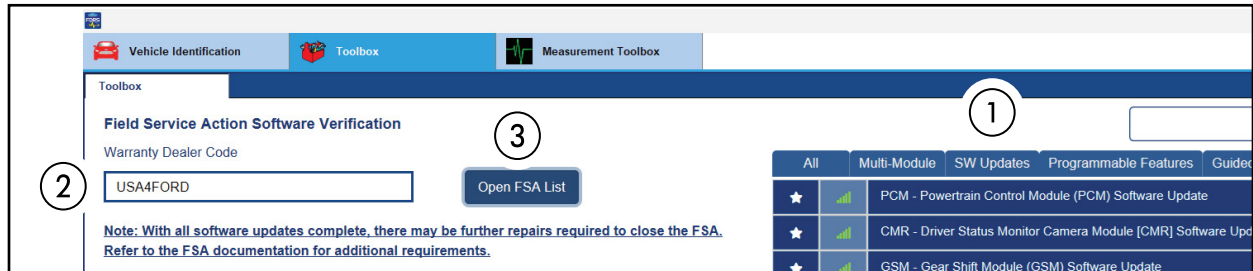

FIGURE 2
6. Select the **SW Updates** tab (1). See Figure 2.
7. **Warranty Dealer Code** (2) - Change the displayed PA code as necessary. See Figure 2.
8. Select the **Open FSA List** button (3). See Figure 2.